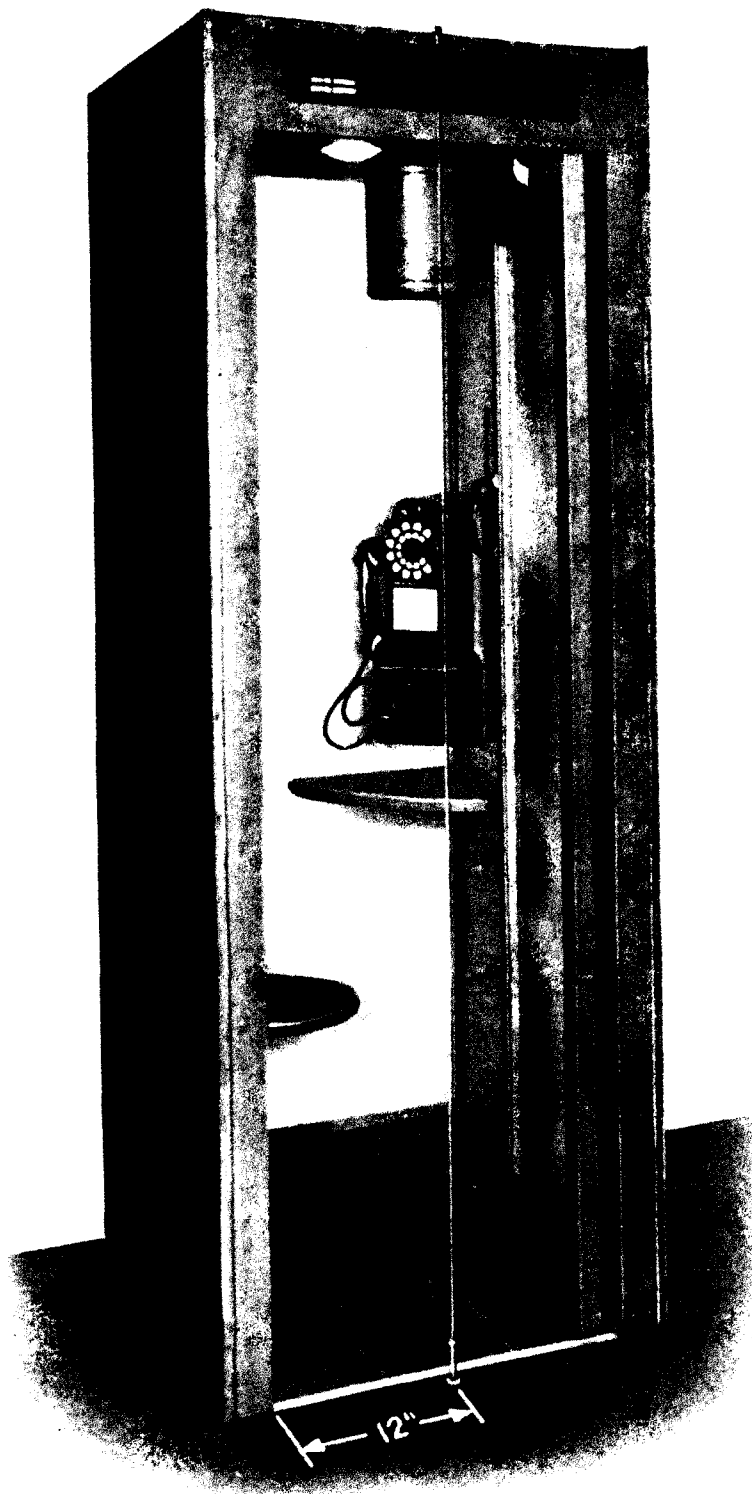

Fig. 2—11-Type Booth With Plumb Line
- (1) Place a dime (or mark the size of a dime) as shown in Fig. 2.
- (2) Suspend a plumb line from a tack temporarily located in the center of the top edge of the booth so that it hangs about 1/2 inch from the floor.
- (3) Shim the booth as covered in 4.06 until the plumb line is centered within the area of the dime (or mark).